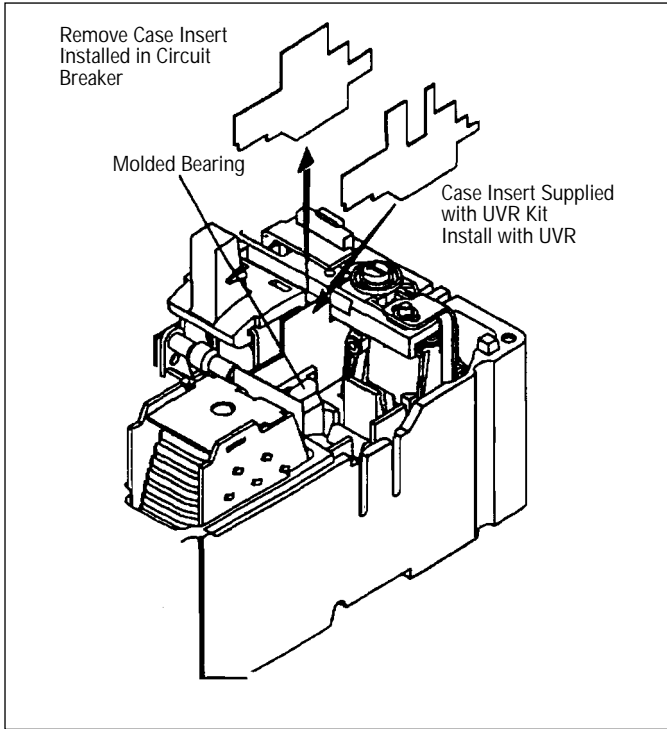

Figure 2-4a Position of Interphase Barrier and Molded Bearing
- a. Remove case insert between accessory mounting cavity and operating mechanism shown in Figure 2-4a.
- e. Slide thin replacement case insert into position between thick interphase barrier and molded bearing (see Figure 2-4a).